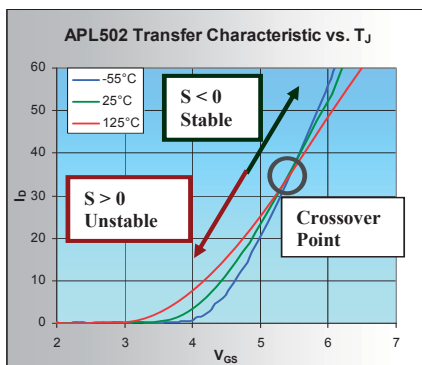

Figure 2: MOSFET Transfer Characteristic
Figure 2 shows the transfer characteristic of a MOSFET at three temperatures. This graphically illustrates the thermal stability factor expressed in equation (2). There is a crossover point through which each temperature curve passes. Below this point, the threshold voltage effect dominates, and localized changes in current are thermally unstable. Above the crossover point, the change in gain dominates, and the device is thermally stable.